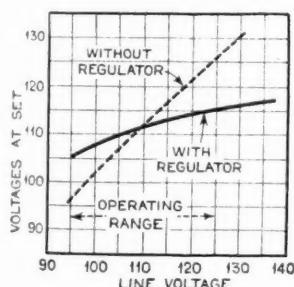
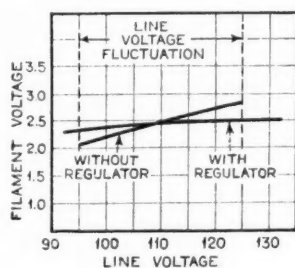

FIG. 1
FIG. 2
The method of eliminating interference set up by the electrical systems of the car is shown in Fig. 2. In the great majority of cars the distributor head or high tension commutators is of the spark-gap type. In all such instances an interference suppressor in the center lead will be necessary. In some cars, however, the high tension commutator is of the wiping contact type and in these cases the suppressor may be dispensed with.
**A**T the June Trade Show there will be announced two new chassis for the 1930-31 season which it is felt will embody some of the outstanding engineering developments of the season. These two receivers incorporate such unique design features that it is felt a description of these features will be of interest to readers of RADIO NEWS. Photographs of laboratory models are shown in Figs. 1 and 1A. Both receivers have separate assemblies for tuning and audio units and the power unit, a common power unit being used for both, which is clearly illustrated in the photograph in Fig. 2.